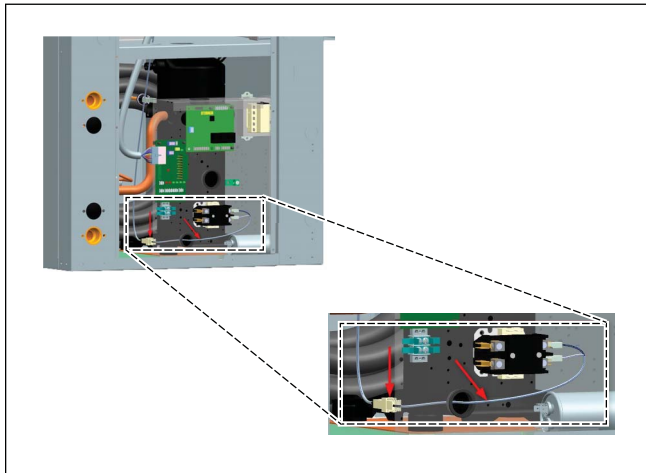

Figure 35
5. Locate the Blower Interconnect Harness, and unplug from the connector side and the compressor contactor side. (figure 35). Discard this wire.